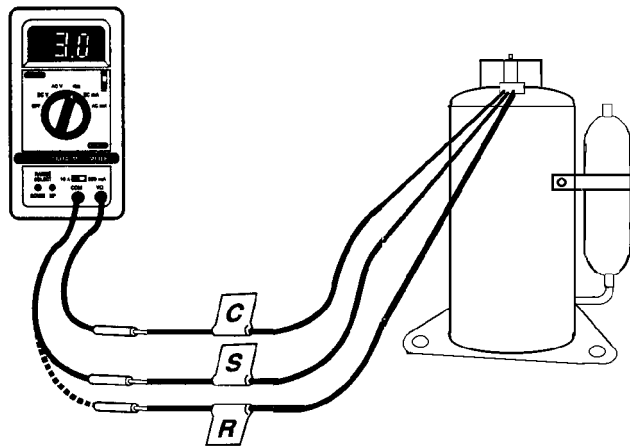

FIGURE 35 — SHORTED/OPEN WINDINGS TEST
4. To measure the resistance between the windings of the compressor motor, use a volt-ohmmeter set to the lowest ohm reading level then read and record the resistance between the RUN and START, START and COMMON, and RUN and COMMON wires. See Figure 35. The typical resistance readings will be about 4, 3, and 1 ohms respectively. The smaller values should add to equal the larger value. If this is not true then the compressor is likely shorted winding to winding.